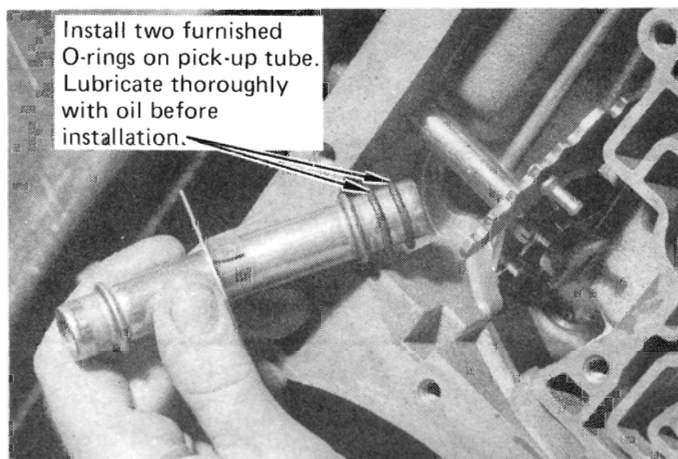

FIGURE 57
STEP 31. Install new oil filter. For longer transmission life and improved oiling system, install B&M Competition Oil Pickup #20287. Install two filter tube O-rings on your pick-up tube. (See Fig. 57) Thoroughly lubricate the O-rings with automatic transmission fluid. Push the pick-up tube-filter assembly into the transmission. On '68 and later models install the filter retaining bolt and torque to 10-ft lbs. This bolt has a 1/2" shoulder on it so the filter is free to "float."